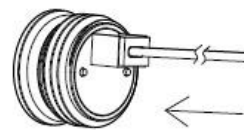

Fig:1
- Connecting the male and female connectors will activate the photocell function (Fig:1).